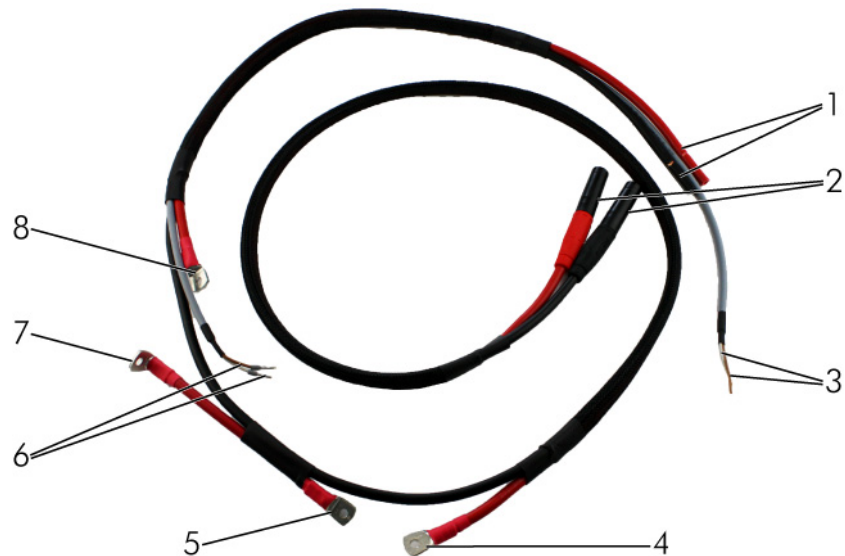

Fig. 4-4 Pre-assembled power cable
2. Insert the exposed end of the black power cable (1, Fig. 4-4) into the negative power output (-).
3. Insert the exposed end of red power cable (1, Fig. 4-4) into the positive power output (+).
5. Insert the black lab plug (2, Fig. 4-4) into the negative power input (-) of the load.
1. Connect the positive power cable coming from the unit (8, Fig. 4-4) to positive contact 1 (+) of the load relay.
2. Connect the angled side of the positive power cable (7, Fig. 4-4) to negative contact 2 (-) of the load relay.
1. Plug the two wire cable (3, Fig. 4-4) to the fourth and fifth terminal of the solenoid valve plug connector (Fig. 4-6).
3. Insert the white lead of the two-wire cable (6, Fig. 4-4) in Contact 8.
1. Loosen screw of negative contact (2) on the reverse current diode.
2. Place cable lug of the positive power cable (5, Fig. 4-4) coming from the load relay on the contact.
4. Loosen screw of positive contact (1) on the reverse current diode.
5. Place cable lug of the positive power cable (4, Fig. 4-4) to the load on the contact.